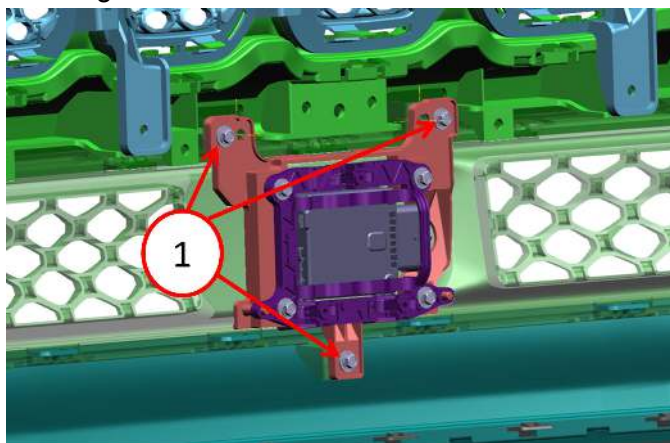

Fig. 1
3. Remove the three fasteners holding the ACC module bracket to the front fascia Fig. 1.
6. Tighten all fasteners Fig. 1 securely.